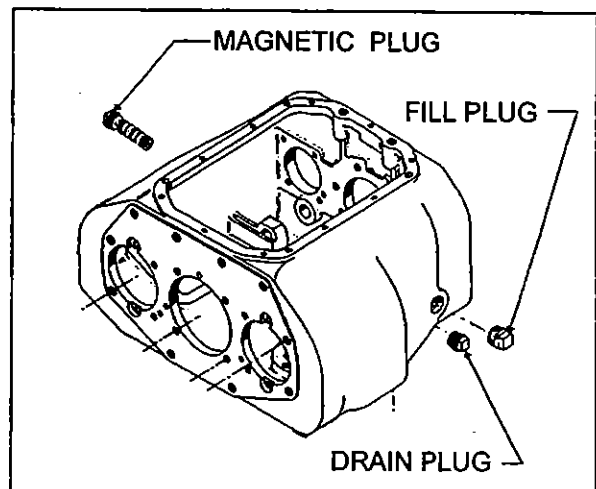

Figure 1: Plugs
Unscrew the fill plug and verify if the oil level is at plug thread level (Fig.1).
1. Unscrew the drain plug (Fig.1) and allow the oil to drain into a suitable container.